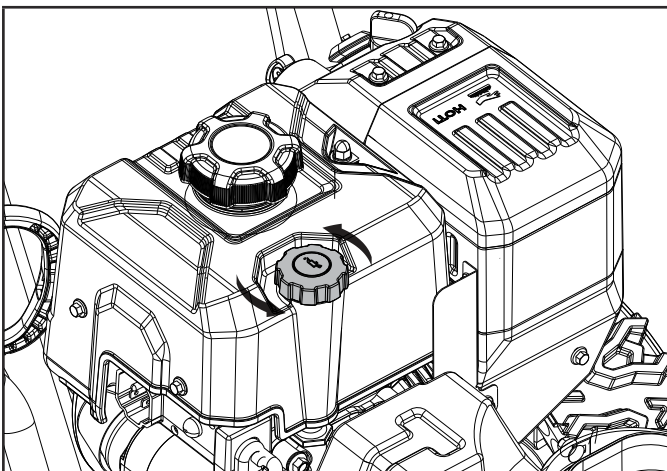

Figure 12A
2. Remove the oil cap/dipstick and wipe it clean (Fig. 12A).